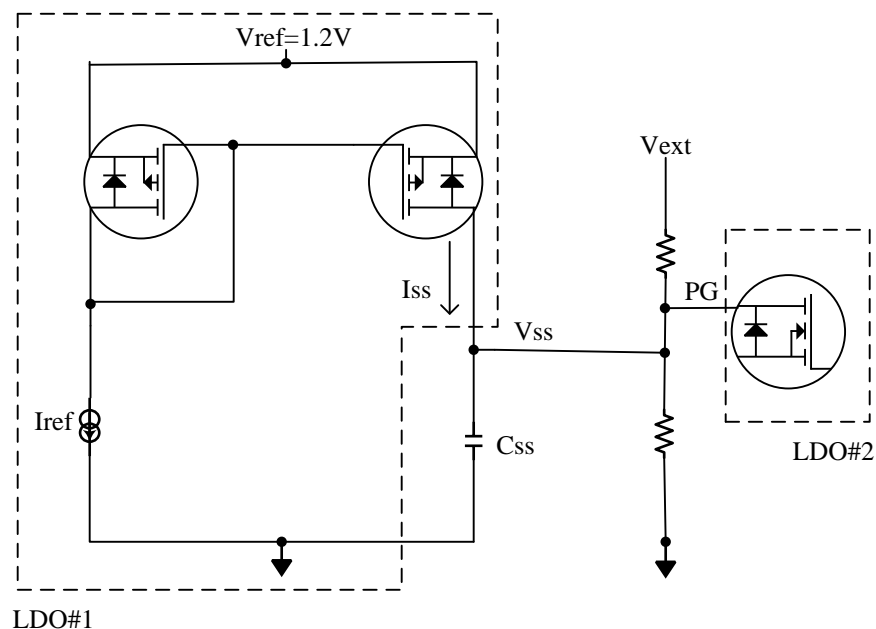

Figure 18. Sequencing LDO1 by Power Good Signal of LDO2
8.3.2 Power Good (PG)
Power Good terminal (9) is an open-drain connection and can be used to sequence multiple LDOs. Figure 18 shows typical connection. As shown, maximum voltage at PG terminal must be limited to <1.2 V in order not to forward bias the internal MOSFET diode of PMOS current mirror circuitry.